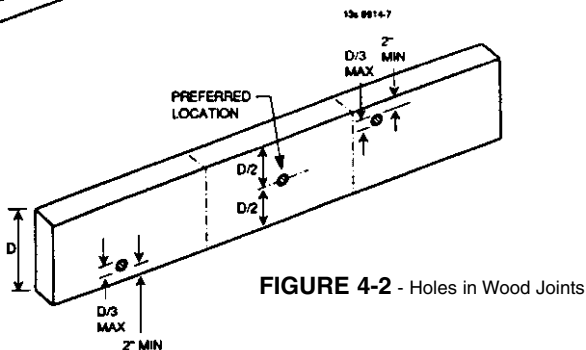

FIGURE 4-2 - Holes in Wood Joists
- Where a hole is to be bored in a joist, the hole should be located at the centerline, otherwise no closer than 2 in. (50.8 mm) from the nearest edge of the joist, and the hole diameter shall not exceed 1/3 the depth of the joist. (See figure 4-2.)